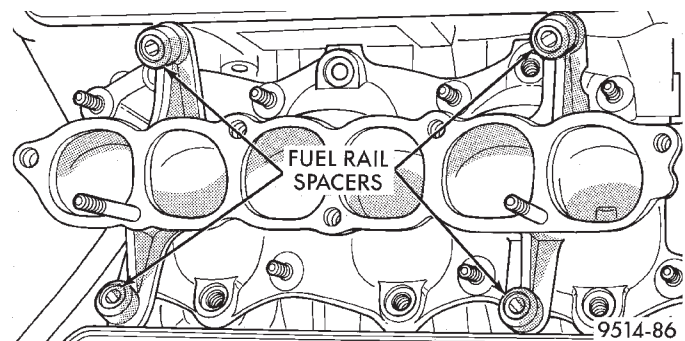

Fig. 35 Fuel Rail Spacers
(18) Lift fuel rail off engine. **There are spacers under each fuel rail bolt (Fig. 35).**